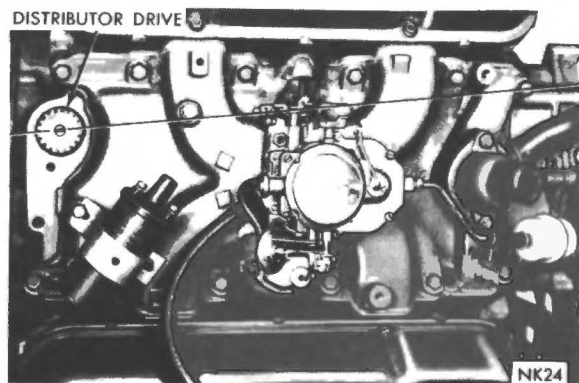

Fig. 25 Position of Distributor Drive Shaft
(3) Coat the shaft and drive gear with engine oil. Install the distributor drive gear so when the gear spirals into place on the camshaft, the slot in the top of the distributor drive gear should be pointing to the first intake manifold bolt on the left side of engine. (Fig. 25).